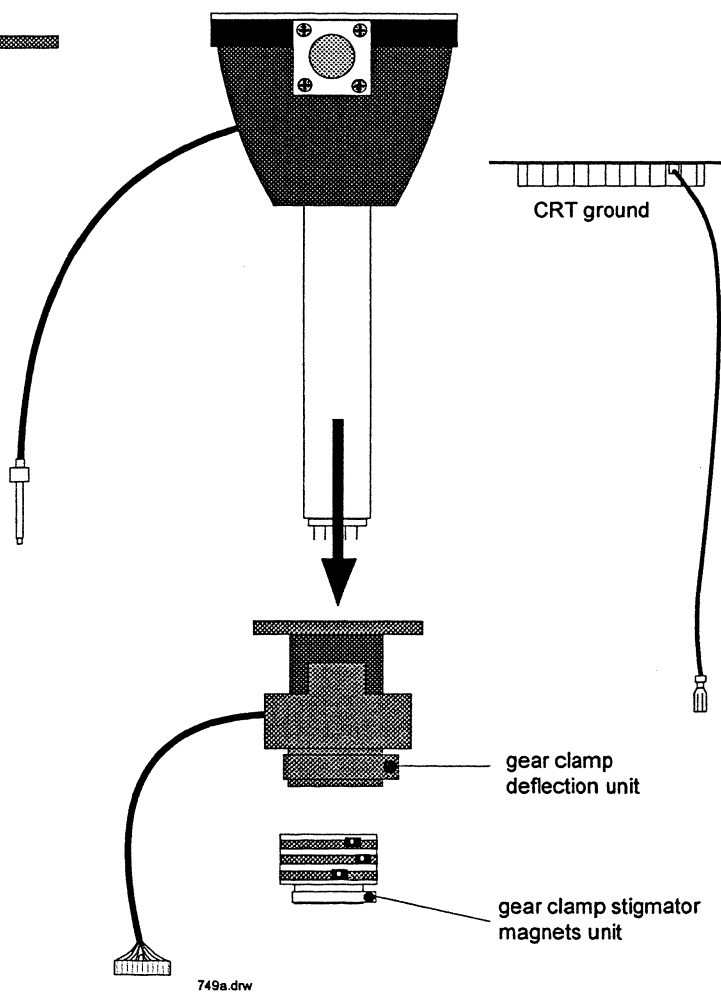

Fig.8
1. Assembling the picture tube unit (fig.8)